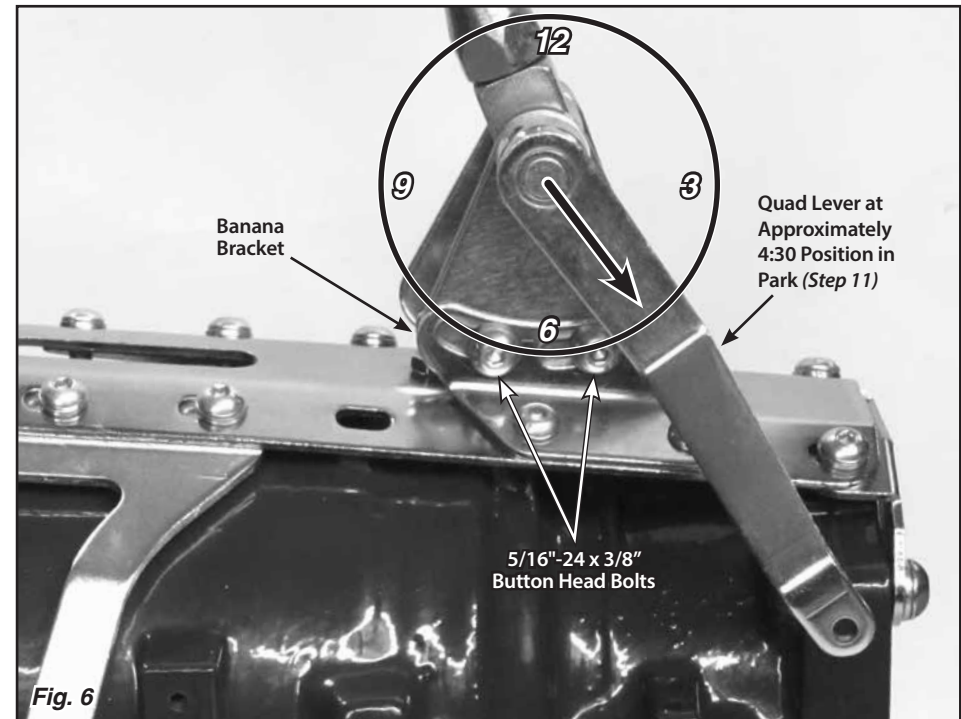

Fig. 6
Double check to make sure that the bolts connecting the **left** side banana bracket to the shifter assembly are tight. **Fig. 6**
Step 10: Make sure the two 5/16"-24 x 3/8" button head bolts that attach the left side banana bracket to the shifter assembly (in the curved, slotted holes) are tight. Before tightening the shifter assembly down to the main plate, move the shifter lever through all the gear positions. Make sure that the shifter lever and knob will not come in contact with the dash or the seat. The shifter assembly can be tilted forward or backward if needed by loosening the 5/16"-24 x 3/8" button head bolts in the curved, slotted holes in the left side banana bracket. **Fig. 6**
Step 11: Put the shifter lever into the Park position and check the position of the quad lever. It will need to be pointing to about the 4:30 position. If it is not, loosen the set screw in the top of the quad lever with a 1/8" Allen wrench and slide the quad lever off of the shaft. Reposition it on the shaft at approximately the 4:30 position, and retighten the set screw. **Fig. 6**